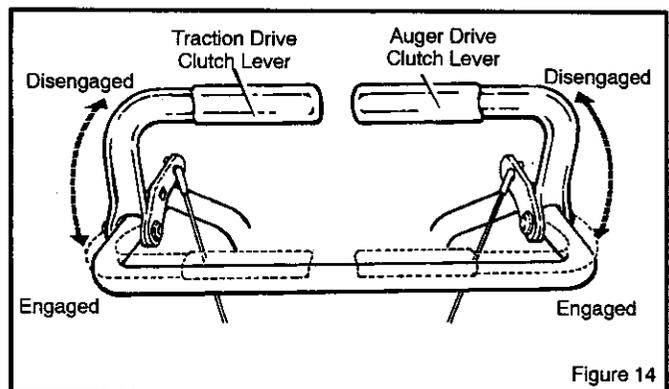

Figure 14
1. Start the engine as described in section "To Start Engine" (see Figure 14).
5. Engage auger drive clutch lever (right hand—Figure 14).
6. Engage traction drive clutch lever (left hand—Figure 14). As the snow blower starts to move, maintain a firm hold on the handles and guide the snow blower along the cutting path. Do not attempt to push the snow blower.
7. To stop forward motion, release traction drive clutch lever (left hand – Figure 14).
8. To stop auger, release auger drive clutch lever (right hand – Figure 14).